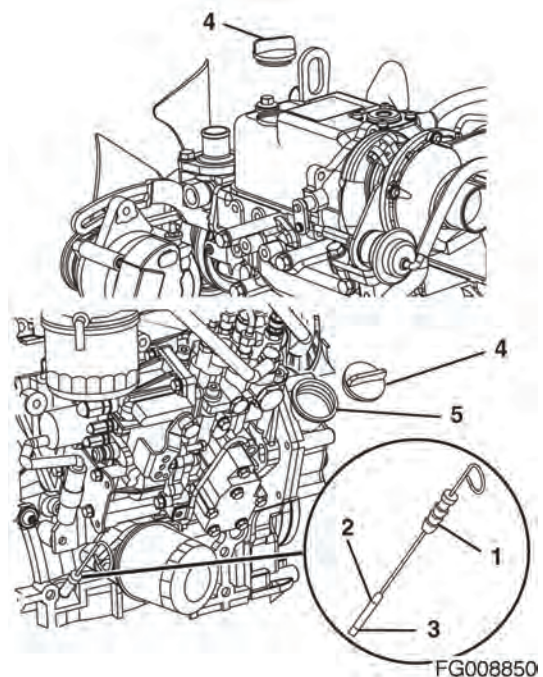

Figure 77
8. Add engine oil (5, Figure 77) as needed until the level is between the upper (2, Figure 77) and lower lines (3, Figure 77) shown on the dipstick (1, Figure 77).
9. Reinstall the oil filler cap (4, Figure 77). If any engine oil is spilled, wipe it away with a clean cloth.